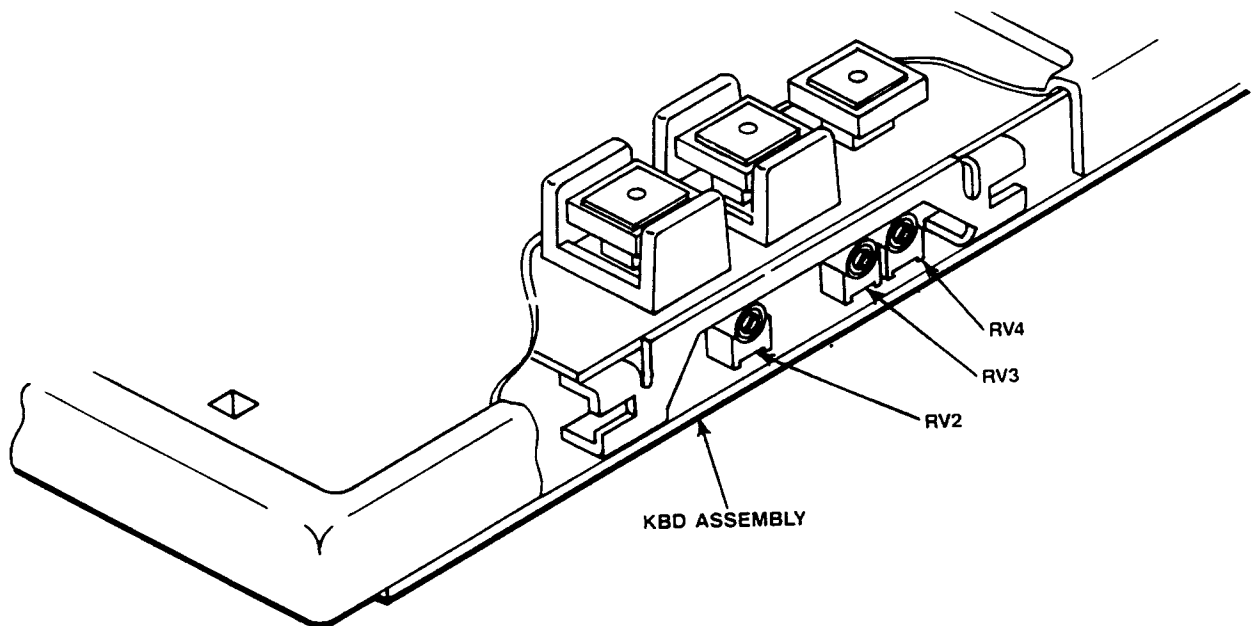

Figure 6-20. EOT Sensitivity Adjustment Location
STEP 4 Adjust RV2 on the KBD board for desired EOT sensor sensitivity (refer to Figure 6-20).